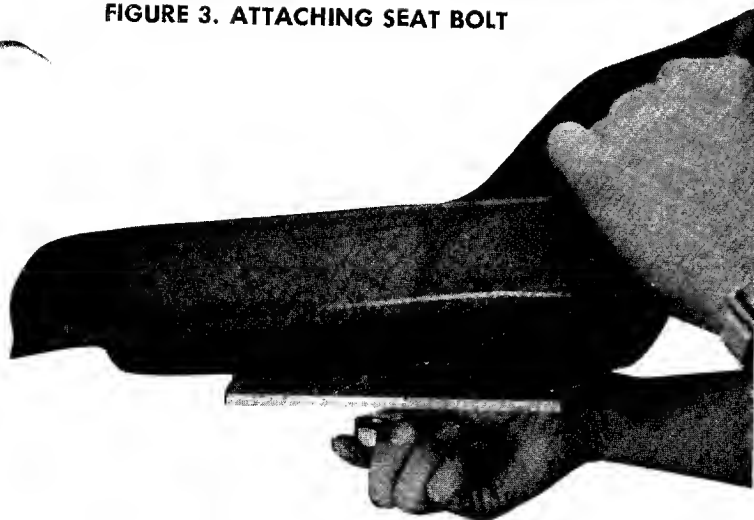

FIGURE 4. SEAT ASSEMBLY
- Step 6. Place the seat on the seat spring and secure with hex nut C. See figure 4.